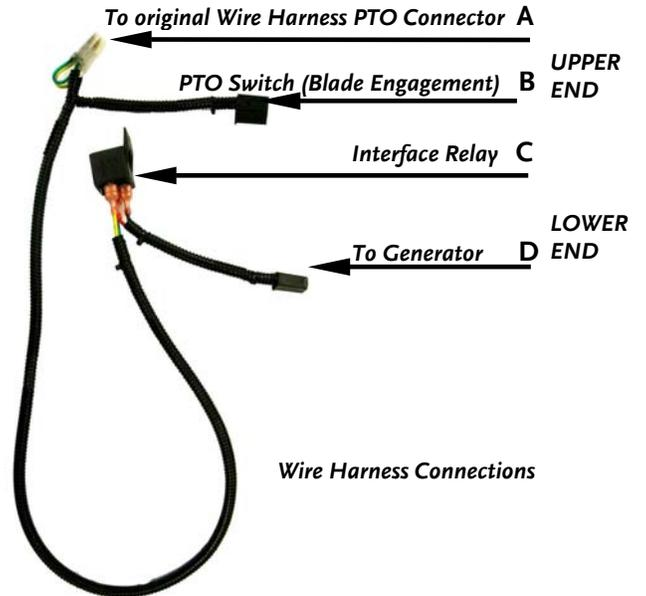
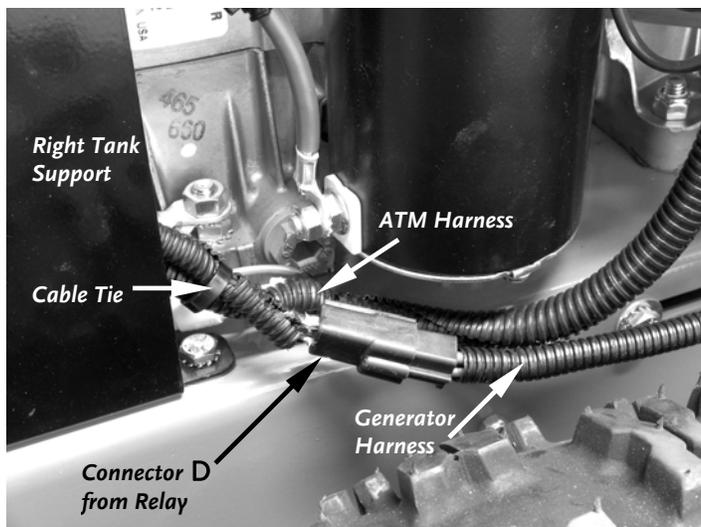

Figure 12
Figure 18
1. Examine the Wire Harness and identify the connections as shown in **Figure 12**.
9. Plug the Connector **D** (**Figure 12** on page 13), from the Relay, into the Generator Harness (**Figure 18**).
10. Secure the new wire harness to the existing ATM harness as shown using a Cable Tie provided (**Figure 18**).